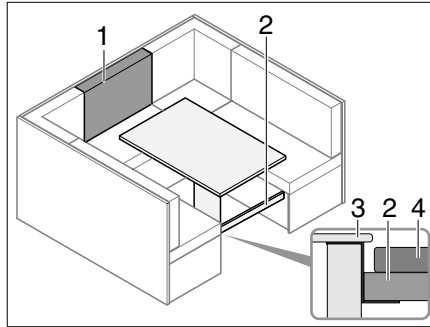

Fig. 194 Prior to conversion
- Insert the cross brace (Fig. 194,2) under the chest lid (Fig. 194,3).
- Push the cross brace (Fig. 194,2) under the table, (Fig. 194,4) so that it is supported.
- Lay the back cushion (Fig. 194,1) before the additional cushion on the table.